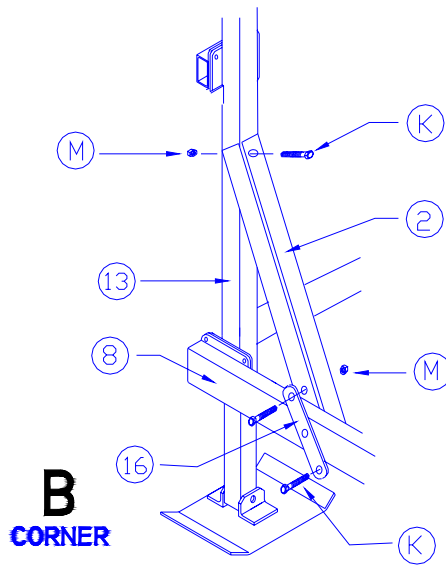

Figure 3-7
1. Position a lower diagonal brace on the inside of vertical leg “B” as shown in Figure 3-7. Loosely fasten with hardware shown.